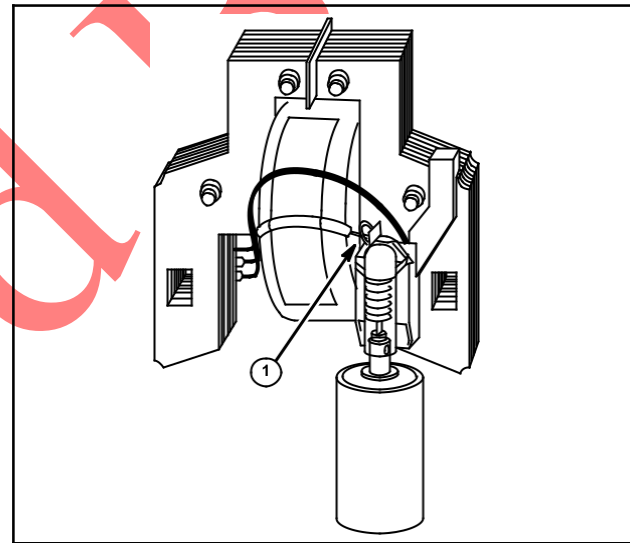

Fig. 12
3. For replaceable module armatures: use breaker point condenser from #294628 point set or a 3/16 inch (4.7 mm) diameter pin punch to release wires from module, Fig. 12.
4. Unsolder stop switch wire from module wire and ignition armature primary wire (1), Fig. 12.